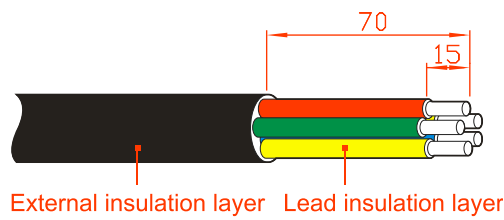

Figure3-22 Stripping diagram of AC output (unit: mm)
- Step 1 Strip the external insulation layer of AC cable for about 70mm, strip the inner lead insulation layer for about 15mm, as shown in Figure3-22.